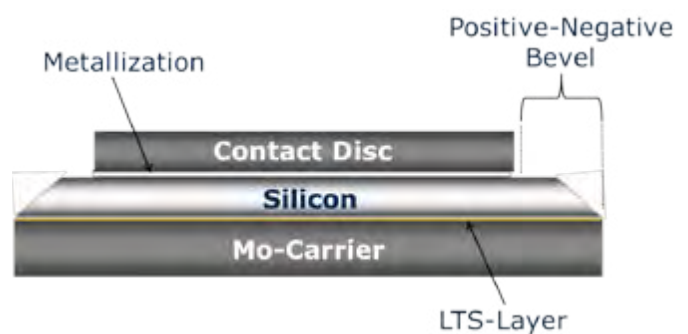
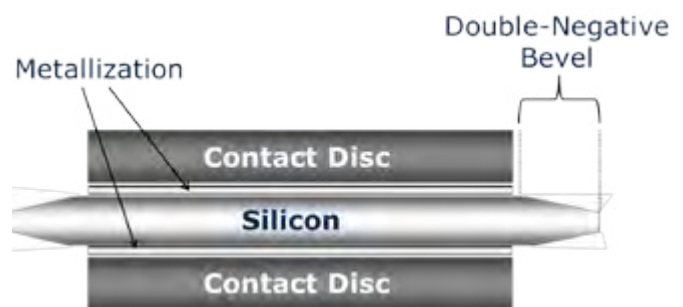

Figure 2a: Cross-section of LTS design and negative-positive bevel at junction termination
Figure 2b: Cross-section of FF design and double-side negative bevel
The LTS technology is based on the concept of diffusion welding and forms a solid metallurgical transition (see LTS-layer in Fig. 2a) between Silicon and Molybdenum carrier over the entire area. In contrast to the dry interface between Silicon and Molybdenum of Free Floating assembly (FF) shown in Fig. 2b, the thermal resistance of LTS designs is significantly lower. In addition, there is no direct thermal coupling between the protruding junction termination area of FF-assembly with double-side negative bevel and the two Mo-contact discs. This may limit the maximum operating temperature at very high periodic blocking voltages V_{RRM} and V_{DRM} .